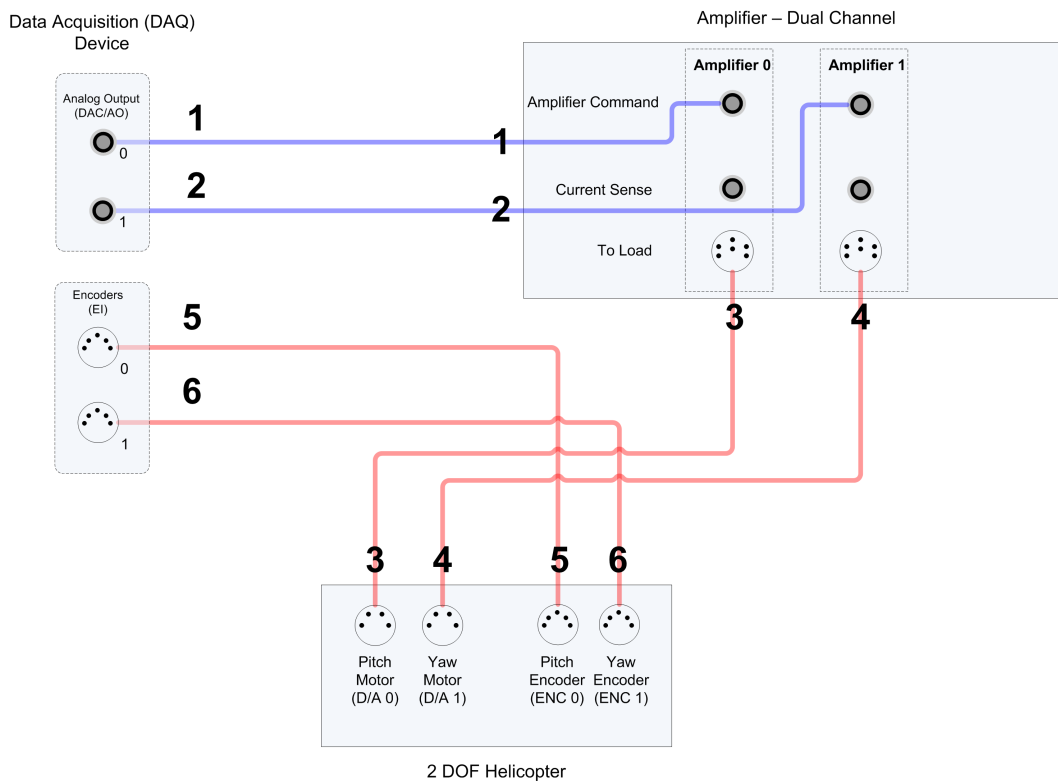

Figure 3.5: Typical connections of the 2 DOF Helicopter Experiment
This section describes the typical cabling connections that are used by default for the Quanser 2 DOF Helicopter system. The yaw and pitch encoders are connected directly to the data-acquisition board. This provides the position feedback necessary to control the helicopter. The data-acquisition board, i.e., DAQ board, outputs a control voltage that is amplified and drives the front and back motors. Figure 3.5 illustrates the wiring between the two-channel data-acquisition device, the 2 DOF Helicopter base, and a two-channel amplifier. These connections are described in detail in Section 3.2.1 and summarized in Table 3.1.
■ **Note:** It is assumed that an Emergency Stop has to be connected to the amplifier. Your configuration may be different. For instance, you may have a DAQ with more IOs than the one presented in Figure 3.5 or have two single-channel amplifiers that do not require any E-Stop (in which case, you would omit connection #7).
3. Connect one of the connectors on the 2x RCA to 2x RCA cable from the *Analog Output Channel #0* on the terminal board to the Amplifier 0 *Amplifier Command* connector. This is illustrated by connection #1 in Figure 3.5.
4. Connect the other line of the 2XRCA to 2XRCA cable from the *Analog Output #1* connector on the terminal board to the Amplifier 1 *Amplifier Command* connector. This is illustrated by connection #2 in Figure 3.5.
5. Connect a 4-pin-DIN to 6-pin-DIN cable from Amplifier 0 *To Load (3x Amplifier Command)* connector, to the *Pitch Motor (D/A 0)* connector on the 2 DOF Helicopter plant. This is illustrated by connection #3 in Figure 3.5.
6. Connect another 4-pin-DIN to 6-pin-DIN cable from the Amplifier 1 *To Load (3x Amplifier Command)* connector, to the *Yaw Motor (D/A 1)* connector on the 2 DOF Helicopter plant. This is illustrated by connection #4 in Figure 3.5.
7. Connect a 5-pin-stereo-DIN to 5-pin-stereo-DIN cable from the *Encoder 0* connector on the terminal board, to the *Pitch Encoder (ENC 0)* connector on the 2 DOF Helicopter plant. This is illustrated by connection #5 in Figure 3.5.
8. Connect another 5-pin-stereo-DIN to 5-pin-stereo-DIN cable from the *Encoder 1* connector on the terminal board to the *Yaw Encoder (ENC 1)* connector on the 2 DOF Helicopter plant. This is illustrated by connection #6 in Figure 3.5.